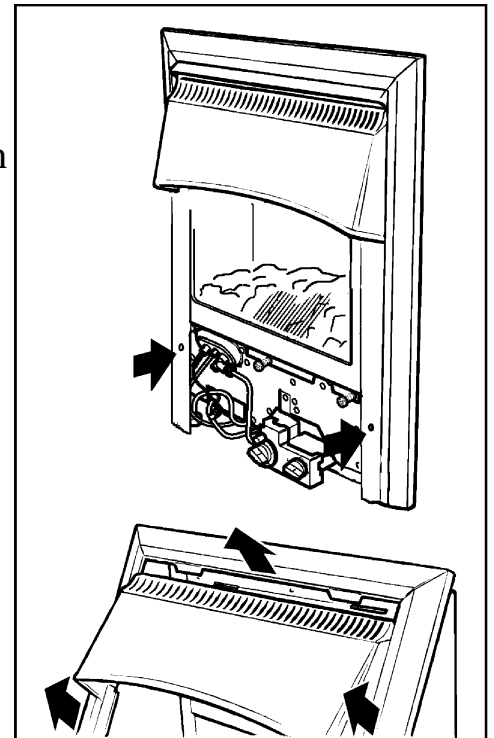

Figure 24. Fascia removal
- Raise the fascia to allow the retaining lugs at the top to clear the slots in the convection box hood and then lift clear (See figure 24).